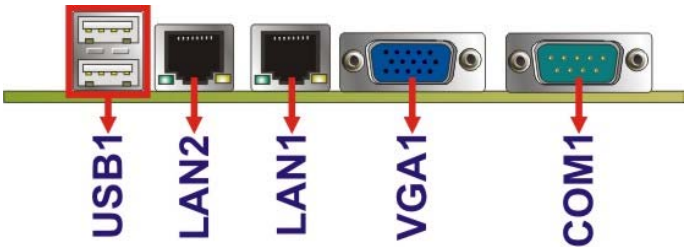

Figure 3-21: External Peripheral Interface Connector
- CN Location:** See Figure 3-21
- CN Location:** See **Figure 3-21**